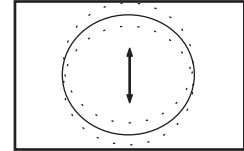

Fig. 11
- Adjust the horizontal location to obtain picture centering (fig. 11).